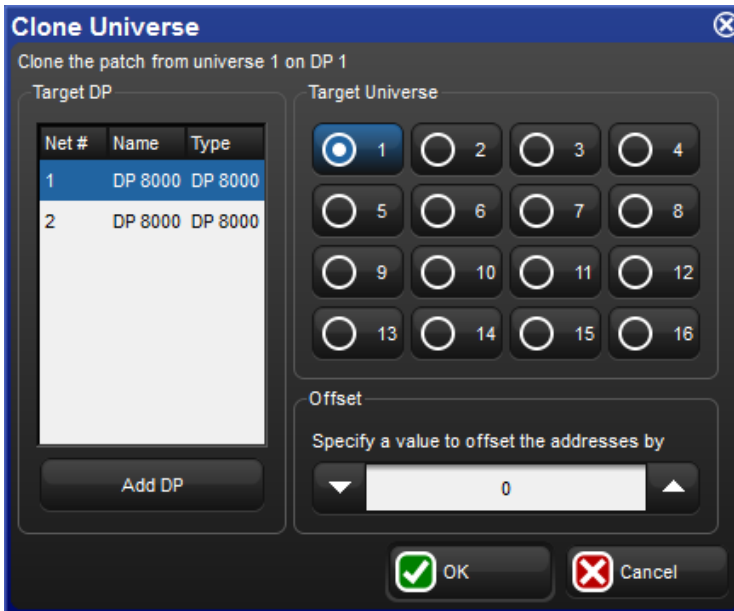

Figure 5.6. The Clone Universe window
3. Press Clone Universe. The Clone Universe window will open; see *Figure 5.6, "The Clone Universe window"*.